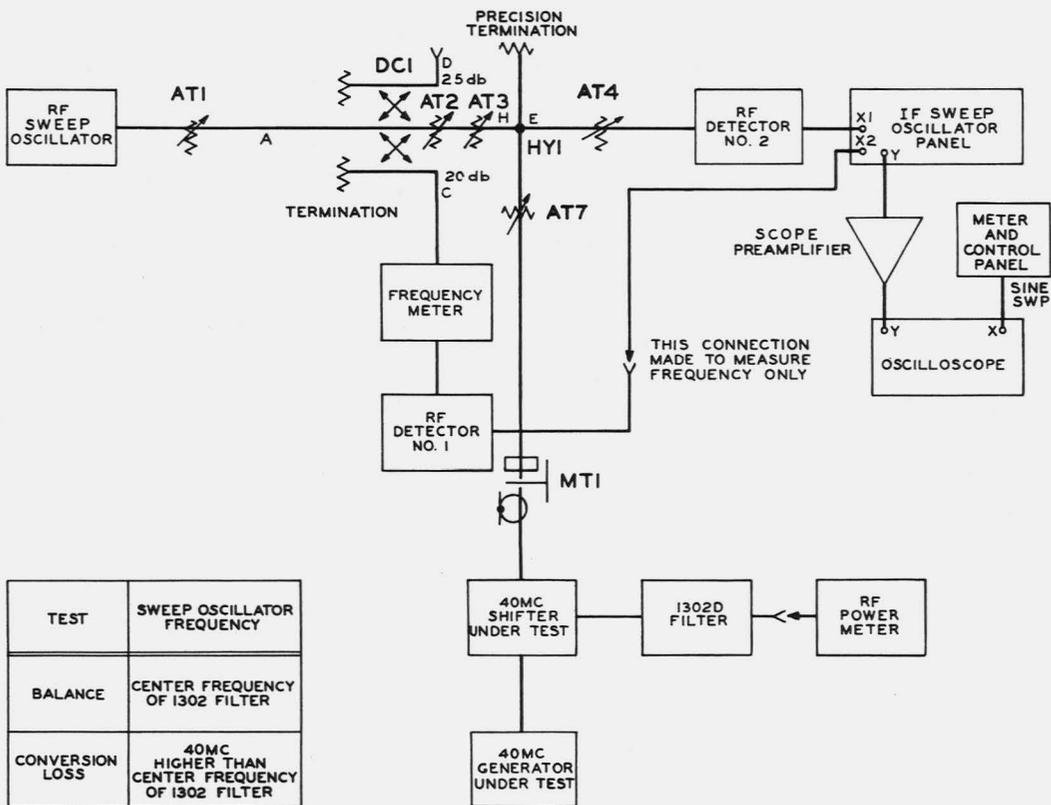

Fig. 27 - Test Arrangement for Balance Adjustment and Conversion Loss of 40 MC Shifter
- (1) Set up the equipment as shown in Fig. 27.
- (2) With the sweeping oscillator not sweeping, adjust the frequency to 3920 mc.
- (3) Connect the RF power meter to D branch of DC1 and set AT4 to 20 db.
- (4) Adjust AT1 for a power meter reading of 0 dbm.
- (5) Set AT2 to such a value that the setting of AT2 plus 19 db = D branch loss of DC1.
- (6) Connect the RF power meter to the output of the 1302D filter and measure the power.
- (7) Adjust the movable transformers in the varistor cavities for minimum power.
- (1) Set up the equipment for test as shown in Fig. 27, with AT9 set to 20 db and the RF power meter connected to D branch of DC1.
- (2) With the RF sweep oscillator not sweeping, adjust the frequency to 3960 mc.
- (3) Set AT2 to such a value that the setting of AT2 plus 19 db = D branch loss of DC1.
- (4) Measure the output power from the shifter, by connecting the power meter to the 1302D filter.